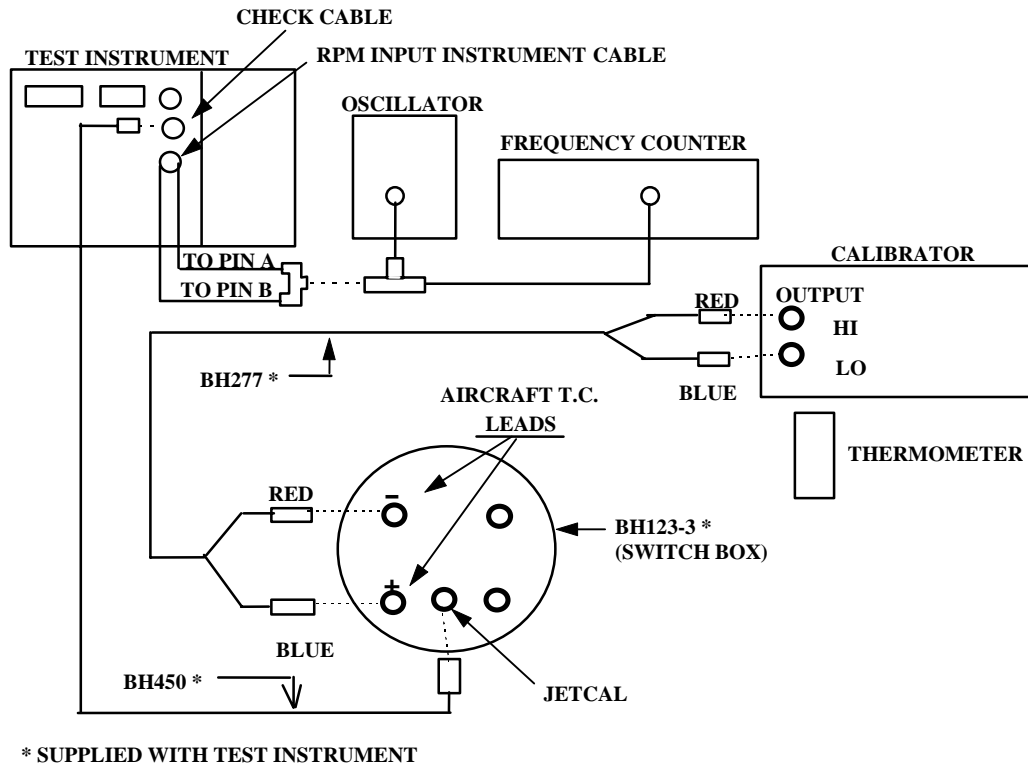

Figure 7. Standard day check.
- (1) Set **STD DAY** switch to **ON** and **TEMPERATURE** switch to **OPERATE**.
- (2) Connect equipment as shown in figure 7.
- (3) Adjust oscillator for a 1.0 V, 70 Hz (14.286 ms) output. (Note: Set up 1.0 V output with multimeter.)
- (4) Adjust **AMB TEMP** (°F) control to **49**. If % **RPM** indicator does not indicate between 100.4 and 101.3, perform **b** (1) and (2) below.
- (5) Adjust **AMB TEMP** (°F) control to **-41**. If % **RPM** indicator does not indicate between 110.7 and 111.7, perform **b** (3) below.
- (6) Adjust **AMB TEMP** (°F) control to **139**. If % **RPM** indicator does not indicate between 92.6 and 93.6, perform **b** (4) below.
(7) Adjust **AMB TEMP** (°F) control to **59**. If % **RPM** indicator does not indicate between 99.5 and 100.5, repeat **a** (3) through (6) above.
(8) Adjust calibrator output to 0.473 mV dc plus millivolt value equivalent to ambient temperature obtained in table 3.
(9) If **TEMP** °C indicator does not indicate between 0 and 4, perform **b** (5) below.
(10) Reverse leads at calibrator output (fig. 7) (BLUE to HI and RED to LO).
(11) Adjust calibrator output to 33.329 mV dc less millivolt value equivalent to ambient temperature obtained in table 3.
(12) If **TEMP** °C indicator does not indicate between 796 and 804, perform **b** (6) below.
(13) Adjust calibrator output to 16.398 mV dc, less millivolt value equivalent to ambient temperature obtained in table 3.
(14) Adjust oscillator for 1.0 V, 63 Hz (15.873 ms) output.
(15) Adjust **AMB TEMP (°F)** control to **99**.
(17) Adjust calibrator output to 24.91 mV dc less millivolt value equivalent to ambient temperature obtained in table 3.
(18) Adjust oscillator for 1.0 V, 77 Hz (12.987 ms) output.
(19) Adjust **AMB TEMP (°F)** control to **-1**.